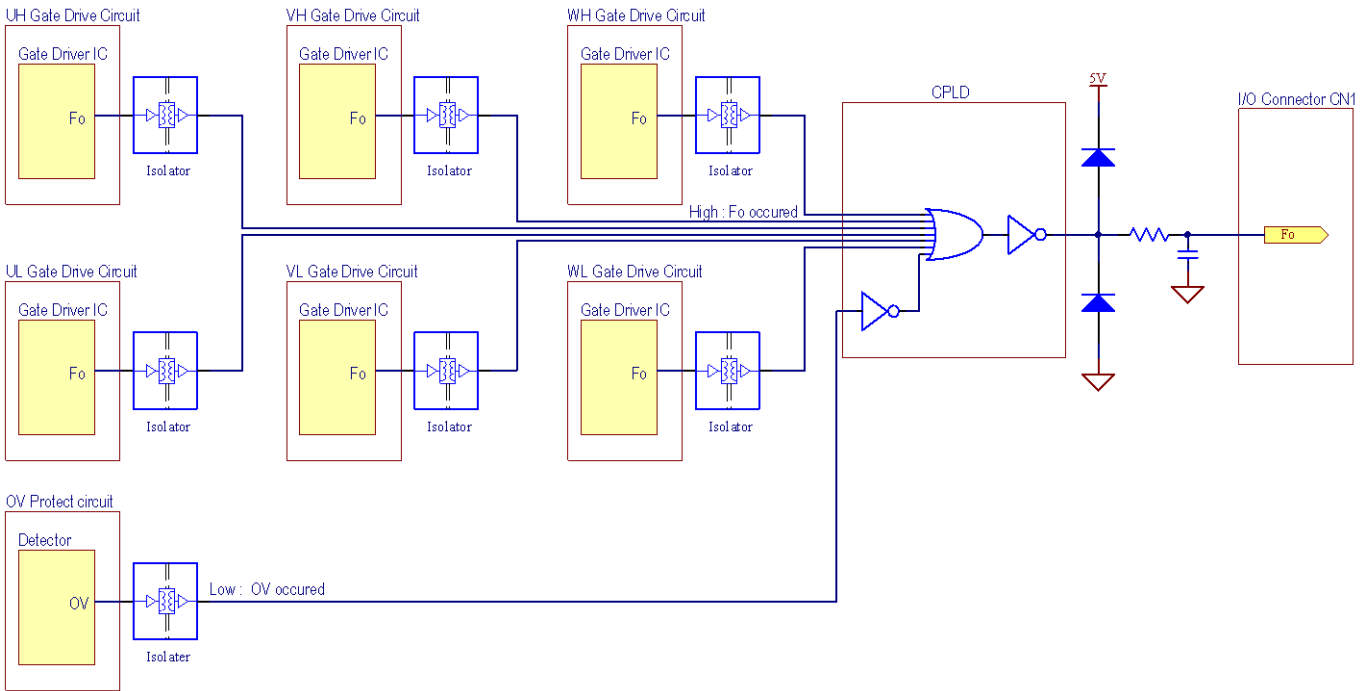

Figure 16 Outline of Fo output part
(2) Fo output part
The outline of the fault output (Fo) circuit is shown in Figure 16. When any gate driver IC or over-voltage (OV) protection circuit senses a fault, fault output (Fo) pin of the I/O connector CN1 turns Low.